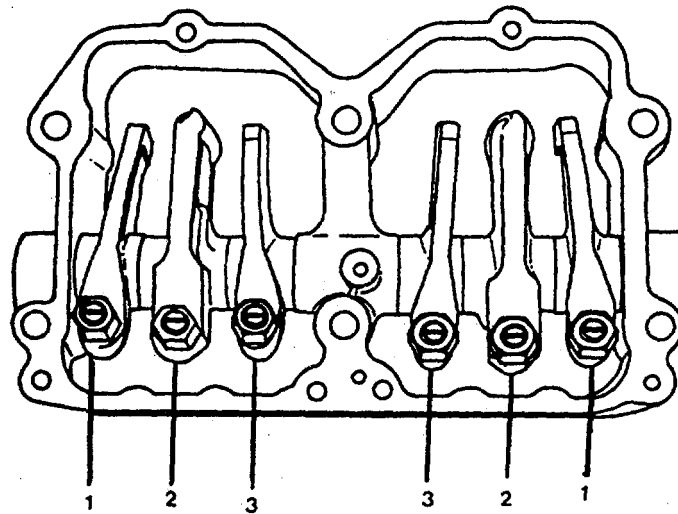

FIGURE 2-30. Identifying Rocker Levers.
- (f) Each cylinder has three rocker levers. The rocker lever nearest to the center of the housing is the intake lever (3, Figure 2-30), the exhaust lever is (1), and the injector lever is (2).